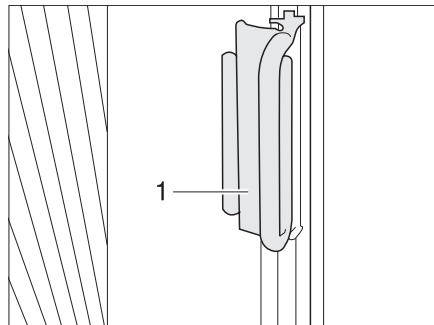

Fig. 80 Handle of the Roman shade for the windscreen
- Grasp the handles (Fig. 80,2) of the Roman shades at both sides of the windscreen and draw carefully to the middle of the windscreen until the magnetic catch keeps the Roman shades closed.